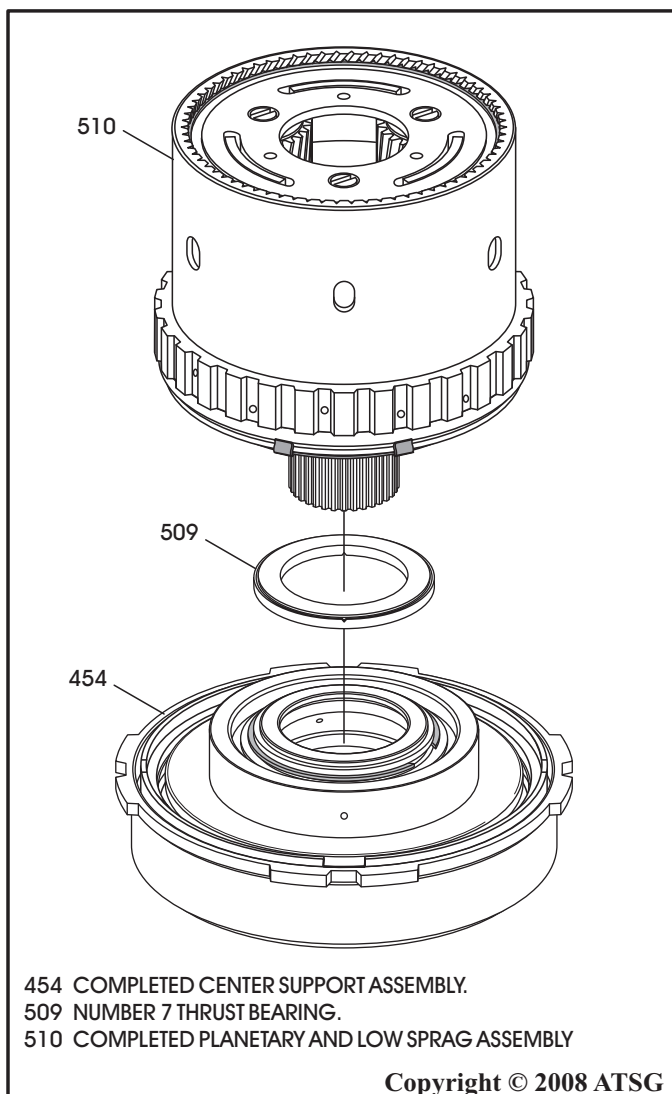

Figure 156
1. Install completed planetary gear train and low sprag assembly onto center support with the number 7 thrust bearing (See Figure 156).